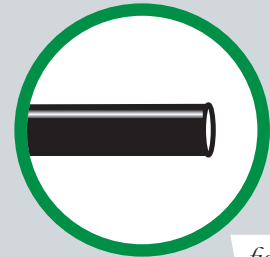

fig. 7
When cutting air lines, use a sharp knife or a hose cutter and make clean, square cuts (Fig. 7). Do not use scissors or wire cutters because these tools will deform the air line, causing it to leak around fittings. Do not cut the lines at an angle.
1. If there is a problem with the push-to-connect fitting, remove the air line as described above. Trim 1" off the end of the air line. Be sure the cut is clean and square (see Fig. 7).